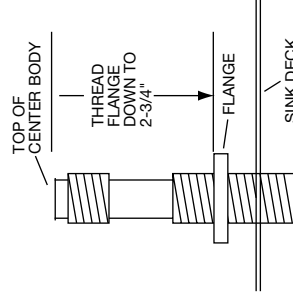
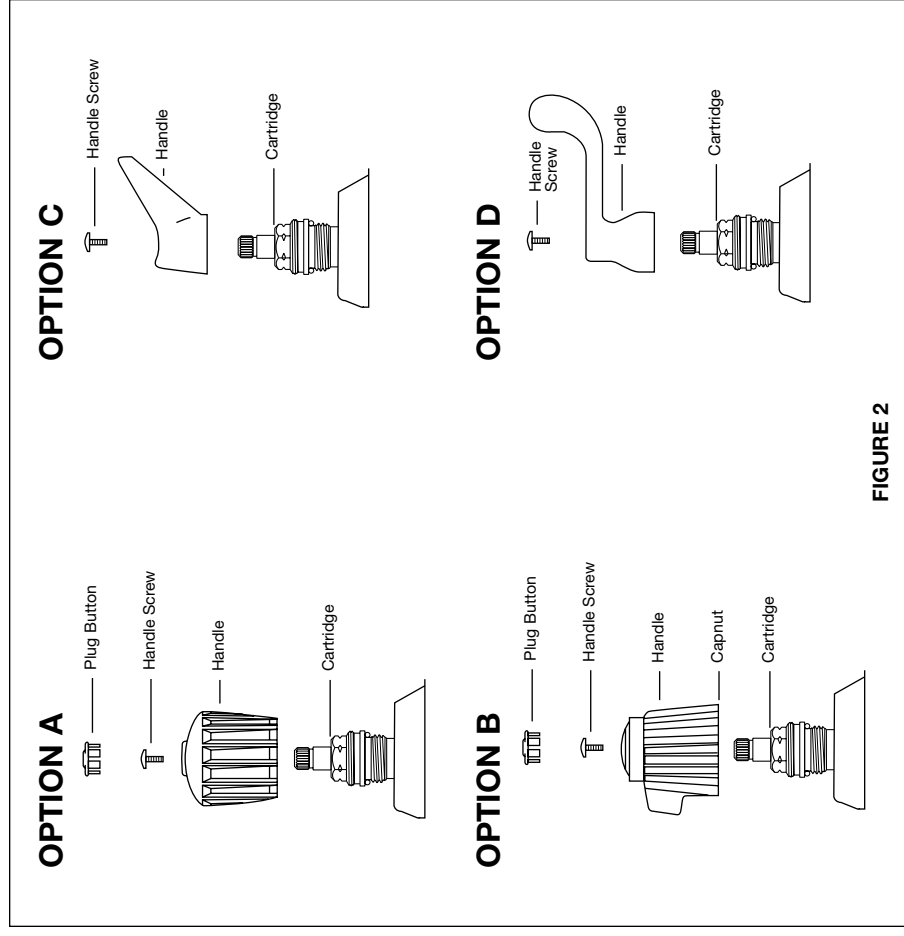

FIGURE 1
FIGURE 2
2. From underneath sink, insert waterway assembly up through sink faucet drillings. From top side, thread flange onto center body. (See Figure 1.) Add washer and sleeve. Insert spout assembly into sleeve and tighten spout nut. Begin to unscrew flange until washer is flattened against bottom of sleeve.
4. From underneath, tighten (2) faucet locknuts.
5. Install handles (see Figure 2).